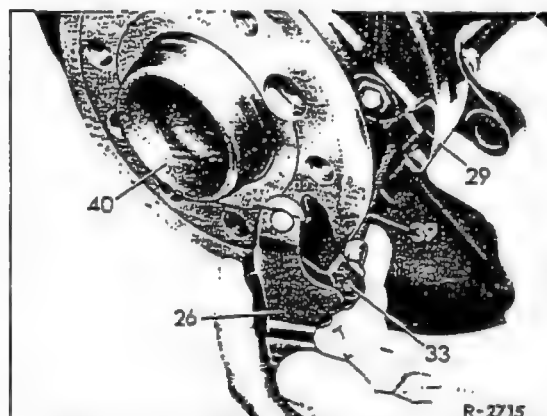

Fig. 42-28/9
On the 2nd version put the springs (22) on the installing tool (30) and insert them in the brake shoe (20) and the back plate (29) through the assembly hole of the rear axle shaft (40a). Turn the springs 90° and make sure that they are properly seated in the back plate (Fig. 42-28/3).